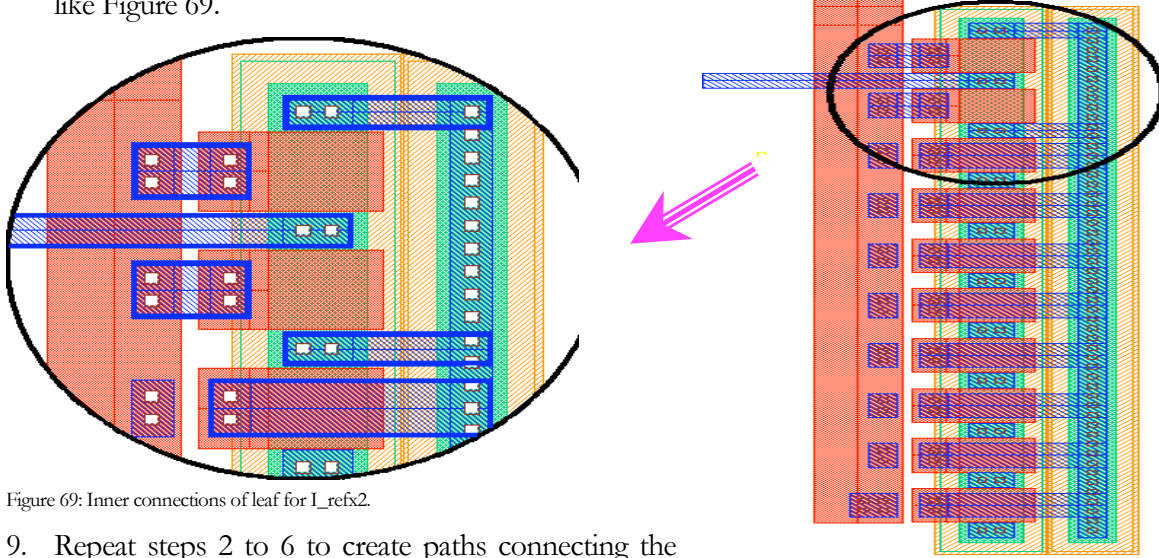

Figure 69: Inner connections of leaf for I_{refx2} .
8. Repeat steps 2 to 6 to create paths connecting the transistors for I_{refx2} . Make sure they are connected in parallel (as shown in Ch1) in order to have $S = 2$. The finished one should look like Figure 69.